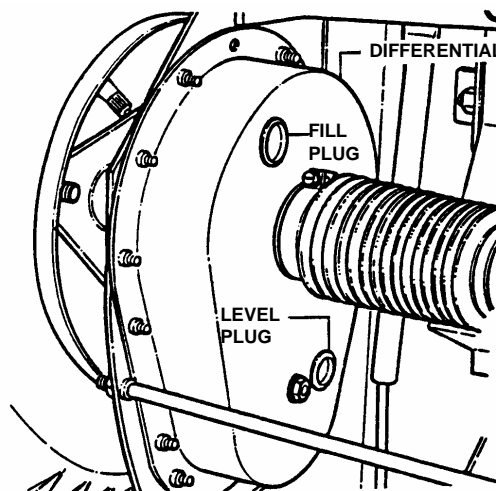

FIGURE 3.8
2. To check lubricant, remove fill/level plug and visually inspect for lubricant on the internal parts of the differential. If no lubricant is visible on the internal parts of the differential, add "SNAPPER Transmission" grease as needed. See Figure 3.8.